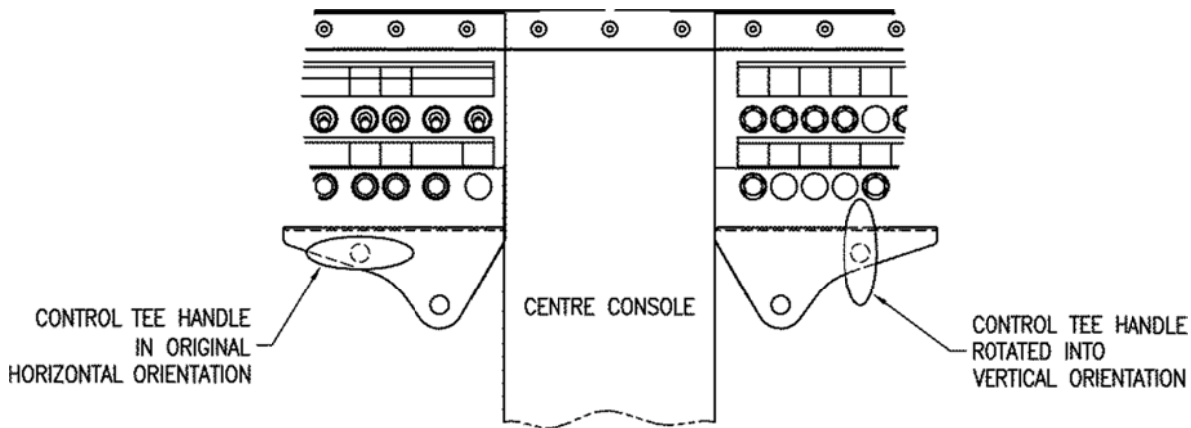

FIGURE 1 CONTROL TEE HANDLE REORIENTATION
- 4) If the Control Column snags the adjacent Heater, Ventilation or Engine Air Filter Bypass Control Tee Handle, reorient the affected Tee Handle as detailed in Figure 1 before further flight.
(Refer to Figure 1)
- 1) Rotate the Control Handle into a vertical orientation as applicable (Figure 1).
- 4) Reinstall the Control Handle so it is oriented vertically (Figure 1). Ensure the handle does not rotate freely on its thread.